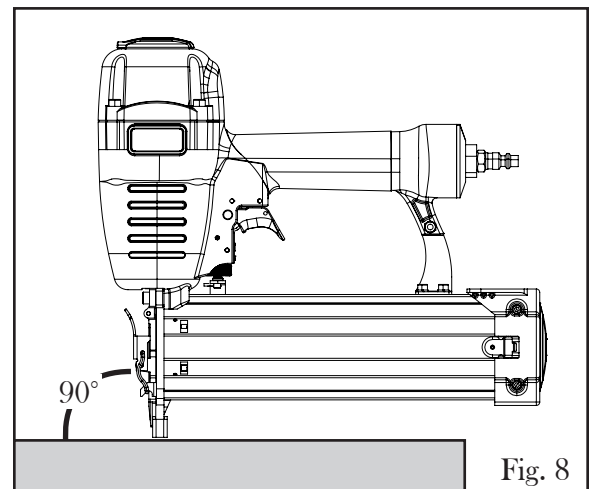

Fig. 8
SHOOTING NAILS (Fig. 8)
2. Hold the nailer upright on the workpiece and position the safety bracket where the fastener will be driven (Fig. 8).